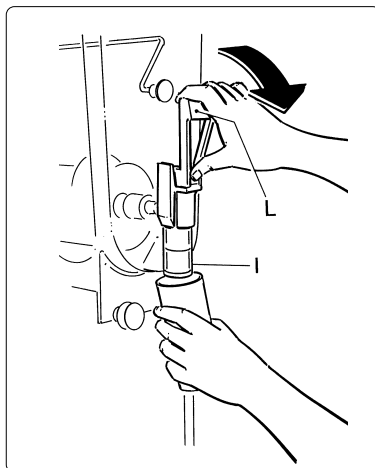

Fig. 8
- a) To dispense the product, position a cup under the tap (I) and lower the lever (L) (see fig. 8).